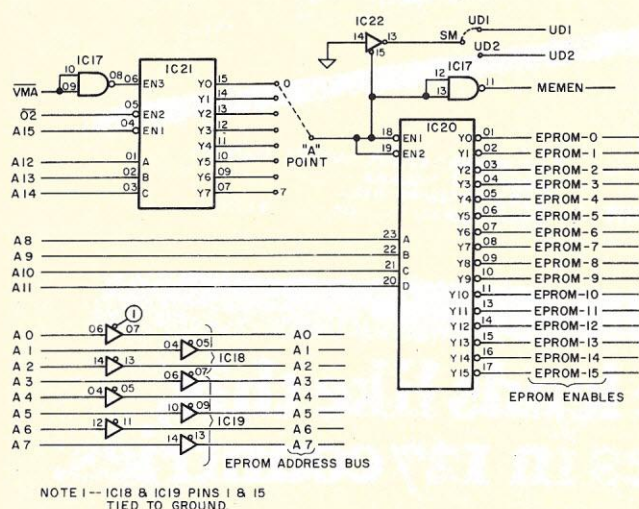

Fig. 1. APTEC 4K EPROM board schematic. The board can be strapped to reside in any 4K boundary in the first 32K of memory via jumper at point A.
The board can be strapped to reside in any 4K boundary in the first 32K of addressable memory (see Fig. 1). The upper 32K of memory can be accessed by a simple circuit modification (see Fig. 2). The address map in Fig. 3 will be helpful.
As seen in Fig. 1, address decoding is done by IC20 and IC21. IC21 is a three-to-eight-line decoder, which is enabled by ANDING the Valid Memory Address (VMA), 02 clock and the complement of address line A15; also decoded are address lines A12-A14. Any of the outputs of IC21 can be strapped to point A on the board to provide the eight 4K boundaries (see Fig. 3). This point A is used to enable IC20, a 4-to-16-line decoder and to signal the 02 clock stretcher to slow the clock (SM). IC20 decodes address lines A8-A11 for addressing one of the 16 EPROM locations.